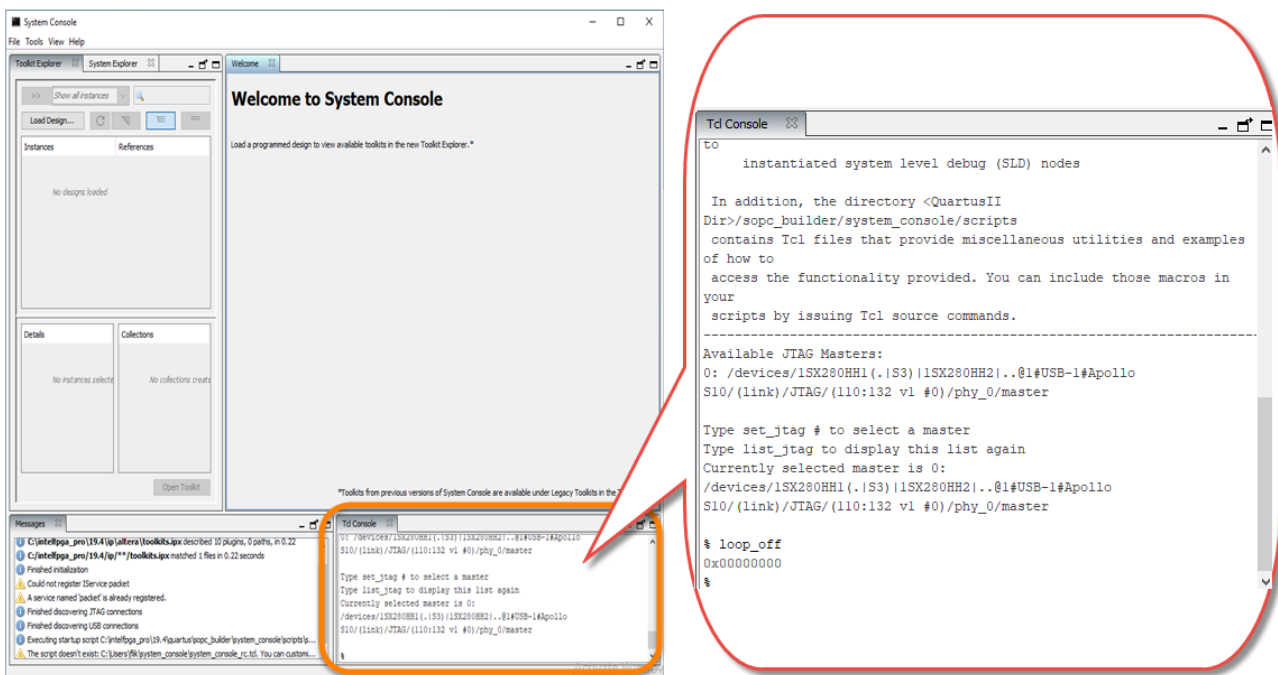

Figure 6-6 Enter command for test
6. If you have a QSFP28 loopback fixture installed, type “**loop\_off**” to turns off internal serial loopback. Otherwise, type “**loop\_on**” to turn on internal serial loopback(See Figure 6-6).